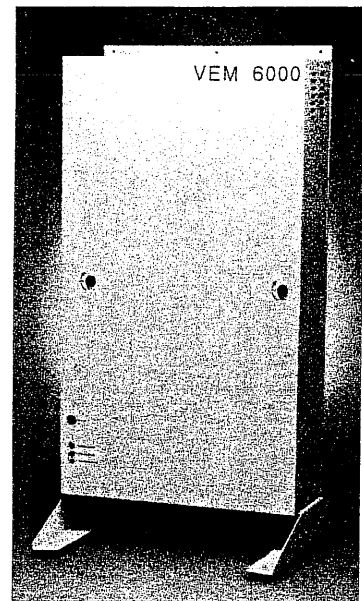
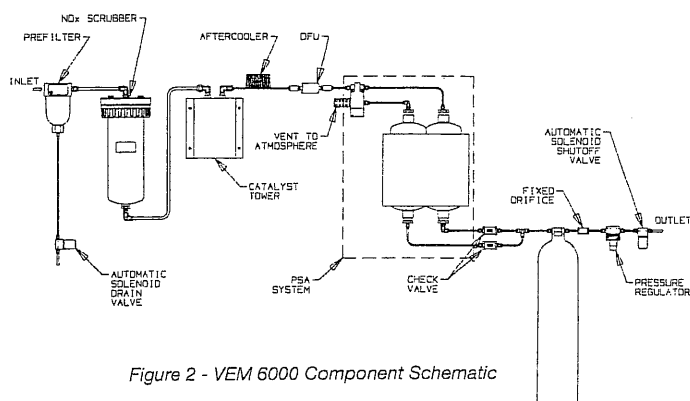

Figure 1 - Parker Balston Vehicle
Figure 2 - VEM 6000 Component Schematic
- General Description** The Parker Balston Vehicle Emissions Monitoring Zero Air Generator Model VEM 6000 (see Figure 1), is a completely engineered system capable of purifying contaminated compressed air into emissions grade zero air. The system is designed to replace the use of high pressure gas cylinders as a source of air to purge and zero instruments used in vehicle emissions testing.
- The Parker Balston VEM 6000, removes nitrogen oxides ( $\text{NO}_x$ ), hydrocarbons (HC), water vapor, carbon monoxide (CO) and carbon dioxide ( $\text{CO}_2$ ) down to part per million (ppm) levels. This product is approved by the California Bureau of Automotive Repair (BAR) for use in BAR 97 and I/M 240 programs.
- The Parker Balston VEM 6000 purifies compressed air in five stages: prefiltration,  $\text{NO}_x$  removal, HC/CO oxidation, air drying/ $\text{CO}_2$  removal and final filtration (see Figure 2). Integrated diagnostics monitor the product performance, attract operator attention when necessary (via indicator lights and audible alarms), and shut down the unit if a fault occurs.